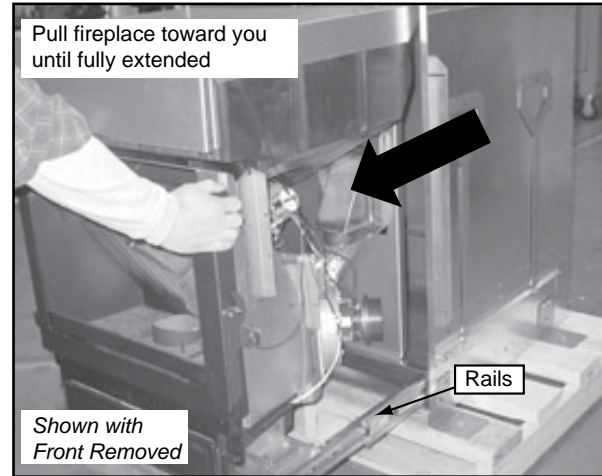

Figure 15.3
4. Pull the fireplace towards you until fully extended. **Figure 15.3.**